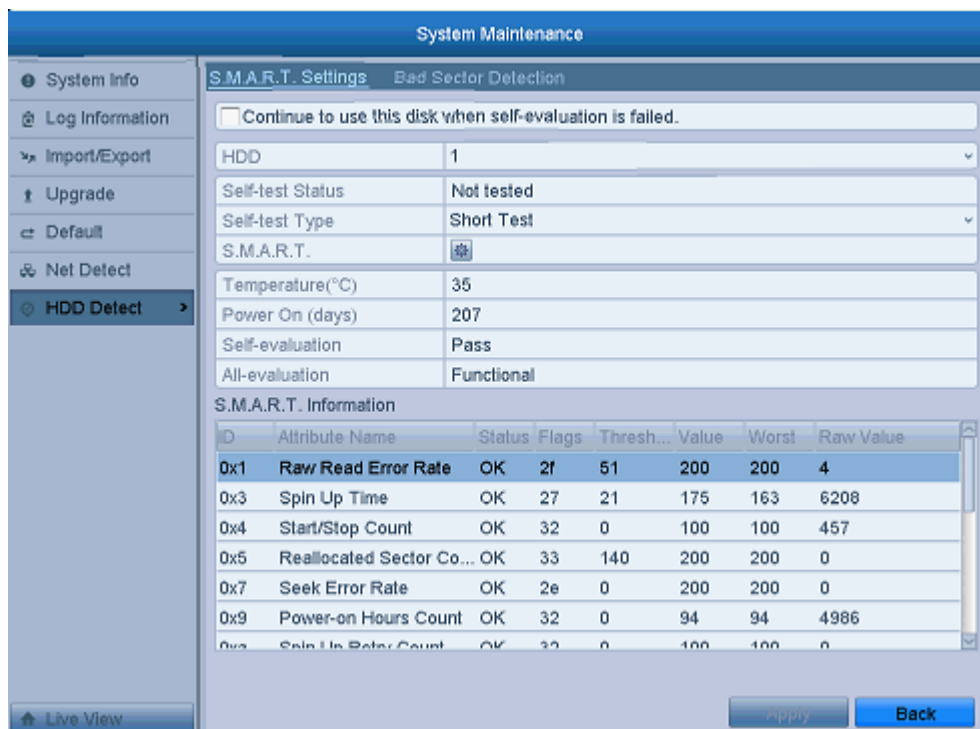

Figure 10. 15 S.M.A.R.T Settings Interface
2. Select the HDD to view its S.M.A.R.T information list, as shown in Figure 10. 15.